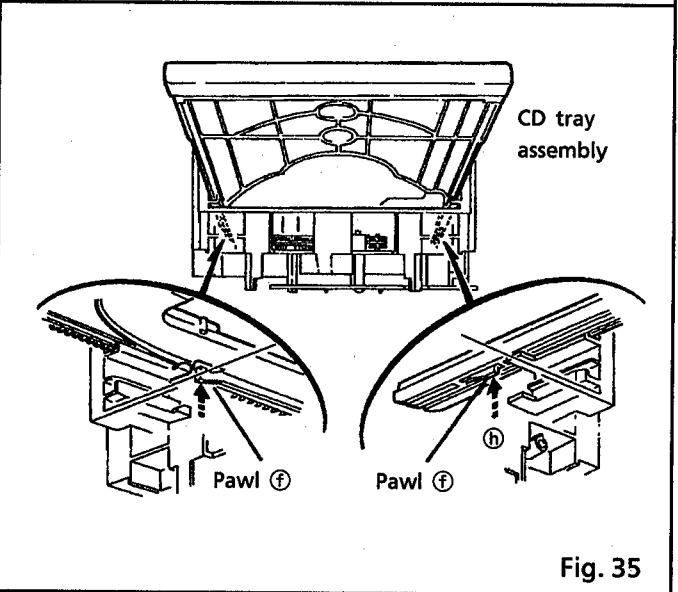

Fig. 35
14. Press 2 pawls (f, f') located rear side of the CD tray ass'y according to an arrow ⑩ to remove the CD tray ass'y. (See Fig. 35.)